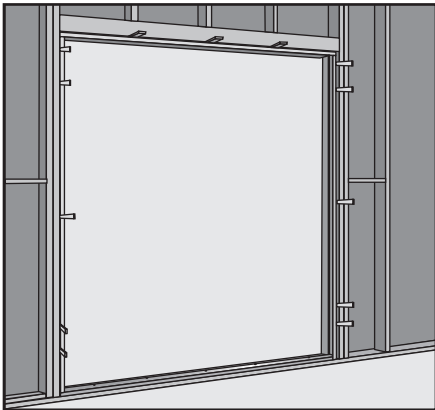

Fig. 21
A. SYSTEMS 1 & 2 (**Fig. 21**), shim the jambs as follows: